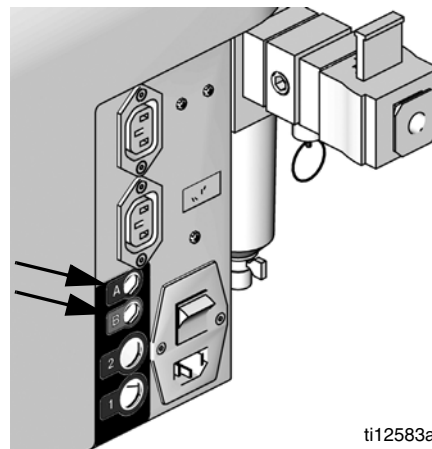

FIG. 6: Tank Refill Kit Power Source
2. For tank refill kits installed on the A side tank, plug the tank refill kit power cord into the "A" connector located at the back of the machine. See FIG. 6.
For tank refill kits installed on the B side tank, plug the tank refill kit power cord into the "B" connector located at the back of the machine. See FIG. 6.